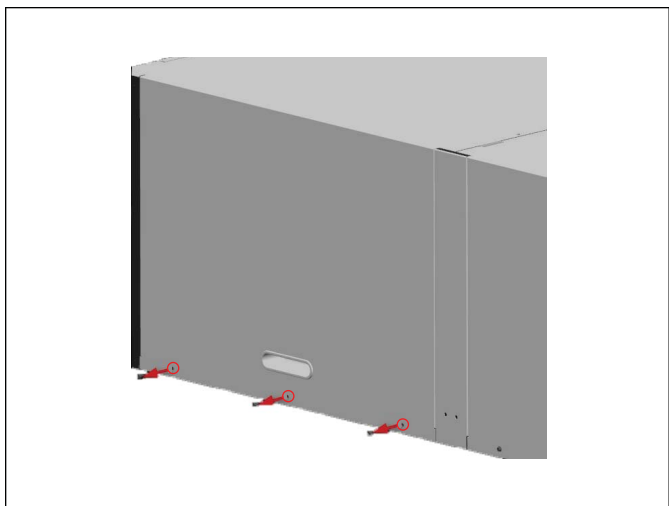

Figure 17
6. After the electrical panel has been removed, remove the blower panel by unscrewing the 3 screws at the bottom of the furthest panel on the left (figure 17).